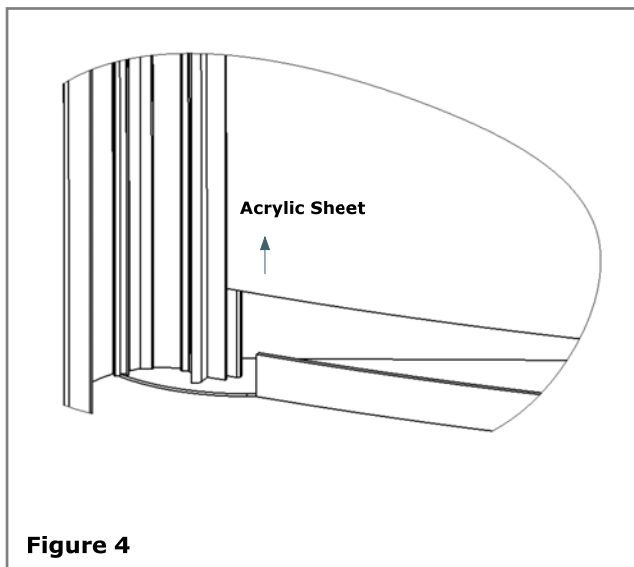

Figure 4
3. Slide the acrylic sheet up about 1" to clear the lip of the bottom cap and then pull it out of the retaining groove on either side. **See Figure 4.**